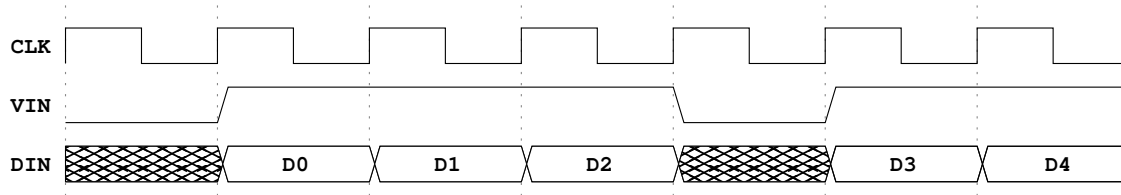

Figure 2
**Note:** the testbench must show that the circuit is working correctly even when  $VIN$  goes to zero, as shown in Fig. 2.